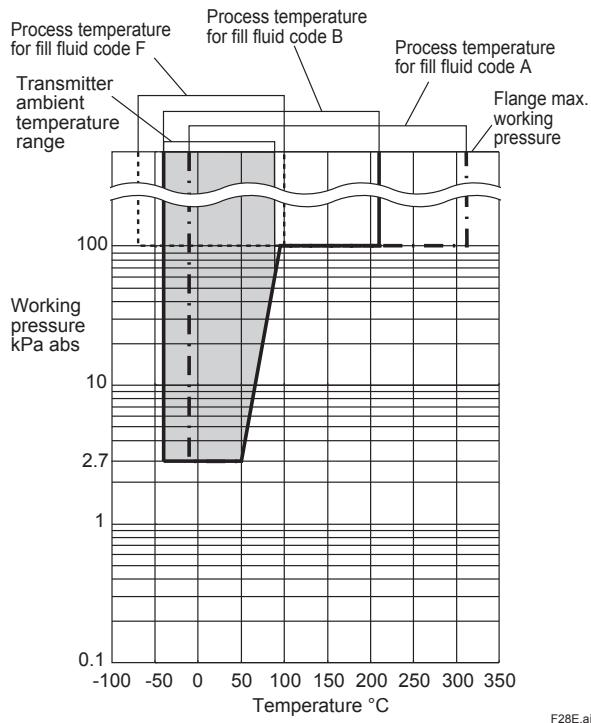

Figure 1e. Working Pressure and Process Temperature (Fill fluid: silicone oil for general and low temperature use)
*1: See figure 1e and 1f 'Working Pressure and Process Temperature.'